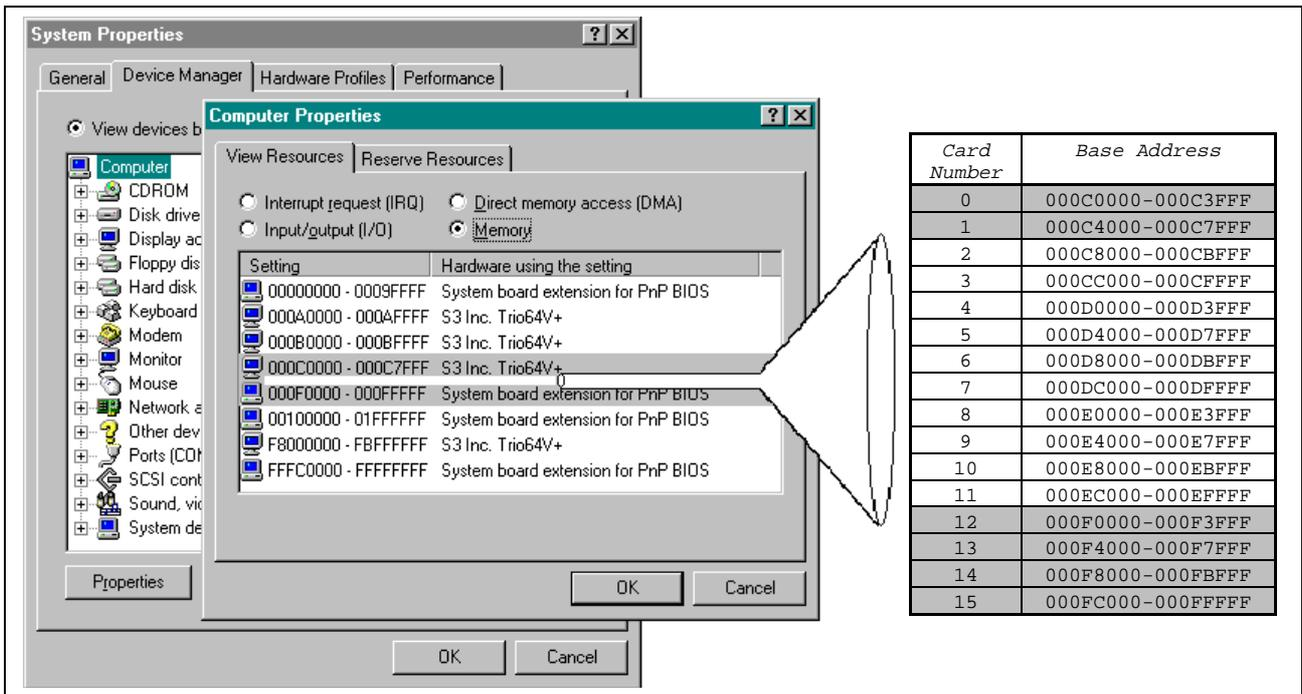

Figure 2-6: CLC-P01 memory allocation
5. Double-click on the System icon . Select the Device Manager tab and click on the Properties button. The shaded area within the *Computer Properties* window in *Figure 2-6* represents the allowable memory range in which the CLC card communicates. Considering *Figure 2-6*, the possible memory locations are represented in the table as card number 2 through 11.